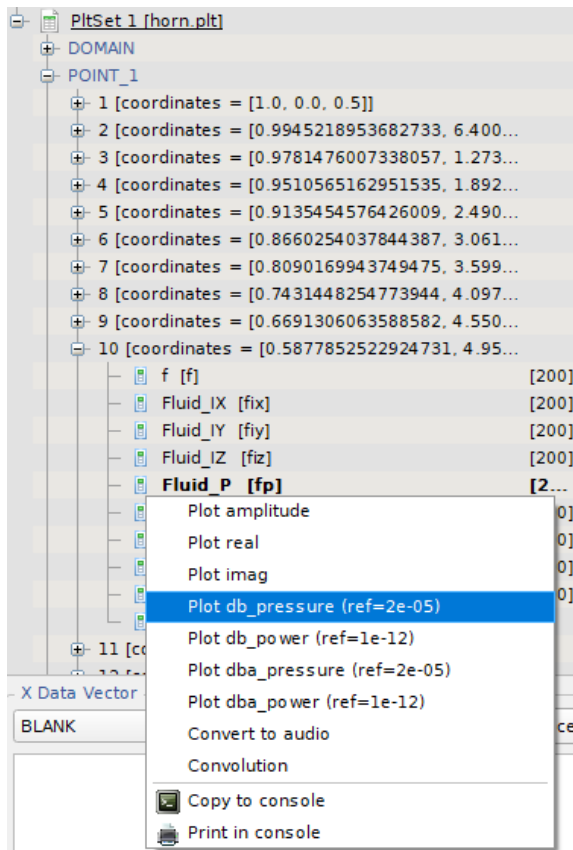

Figure 6.36: Plot the FRF of pressure in dB
- Plot the FRF of the acoustic pressure (dB) on point 10 in the first set of field points (Figure 6.36);